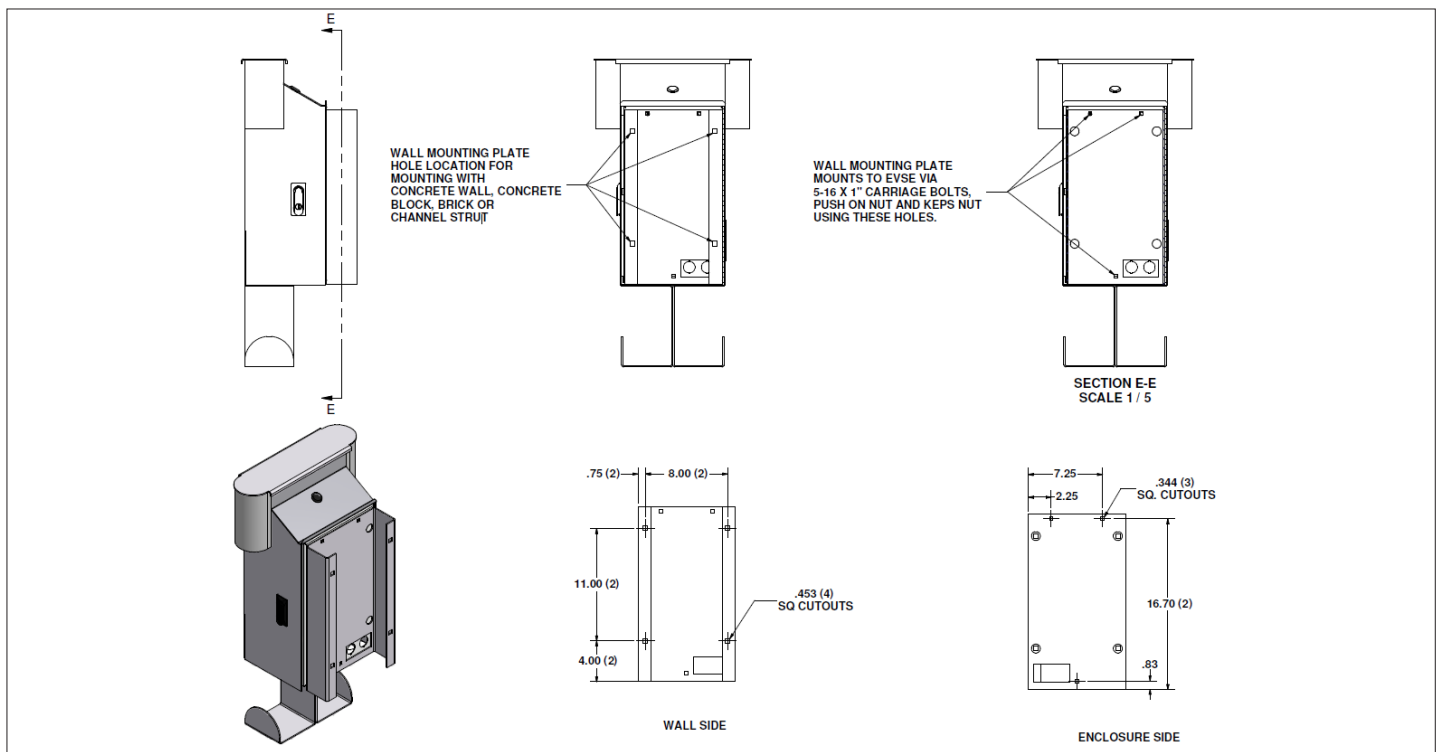

Figure 4. Unit and Mounting Plate.
- Step 1:** Remove the mounting plate from the back of the EVSE unit by placing the unit on a solid non-scratch surface and opening the unit by turning the latch on the side. Remove the three nuts on the 5-16 carriage bolts that attach the mounting plate to the unit. The location of these mounting studs can be seen in **Figure 4**. Save these nuts and washers as they will be needed to re-attach the unit later in the installation.
Step 1: Remove the mounting plate from the back of the EVSE unit by placing the unit on a solid non-scratch surface and opening the unit by turning the latch on the side (for details, see Section 5. Instructions for Opening Door Latch). Remove the three nuts on the 5-16 carriage bolts that attach the mounting plate to the unit. The location of these mounting studs can be seen in **Figure 4**. Save these nuts as they will be needed to re-attach the unit later in the installation.